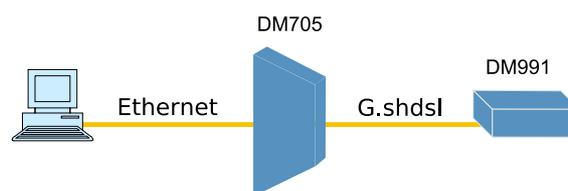

Figure 14. DM991 Managed as DM705 remote
- Through the remote management, that can be integrated to the DATACOM equipments management system using the DmView software. This configuration can be used when the DM991 is the remote to a DM705 equipment (as shown on Figure 14).